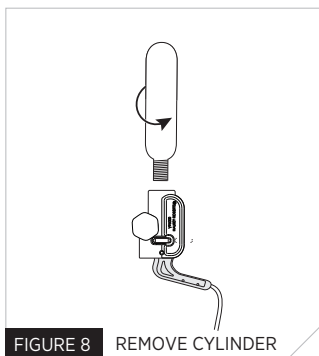

FIGURE 8 REMOVE CYLINDER
2. Remove the cylinder by rotating counterclockwise and then pull out (see Fig. 8). Discard the used cylinder.